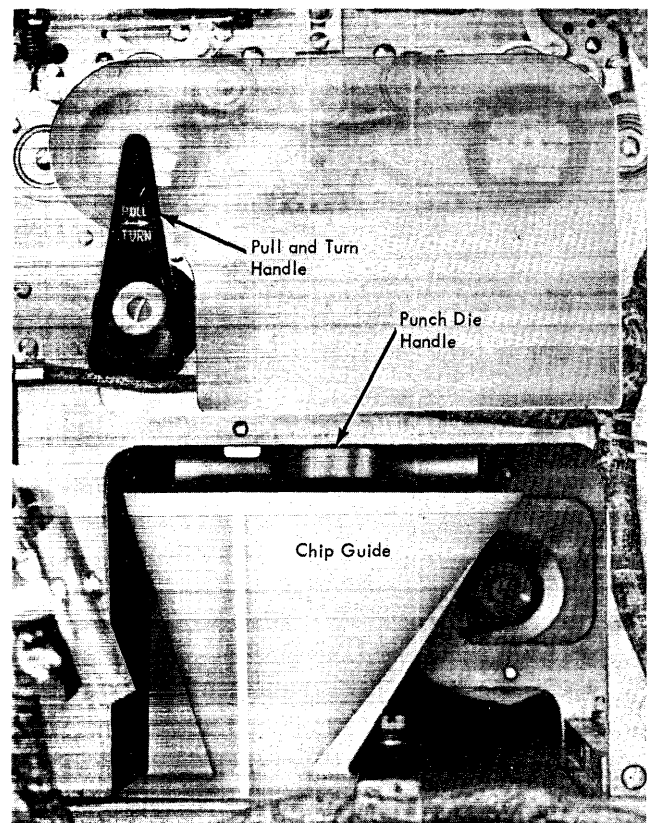

Figure 14. Punch Feed (Rear)
9. To make a card at the punch dies accessible, face the machine from the rear (Figure 14) and follow these steps: